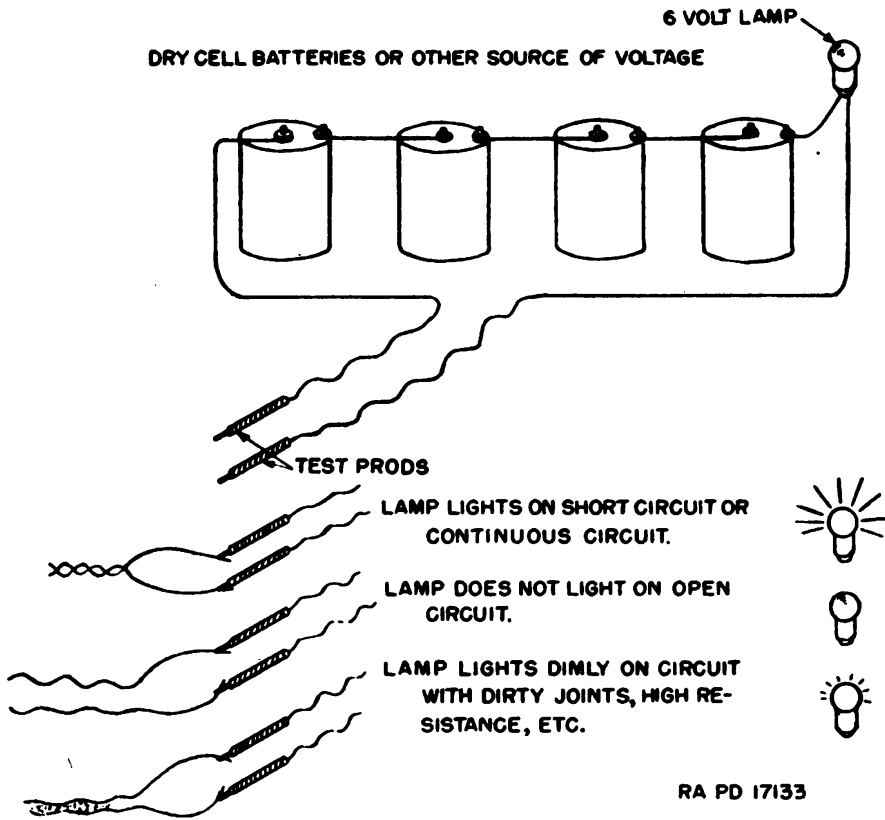

FIGURE 17.—Use of electrical test circuit.
(3) Using the test circuit (fig. 17) check the sockets, switches, receptacle, and wires for short or interrupted circuits. If short or interrupted circuits are found they must be corrected (pars. 32 and 33).